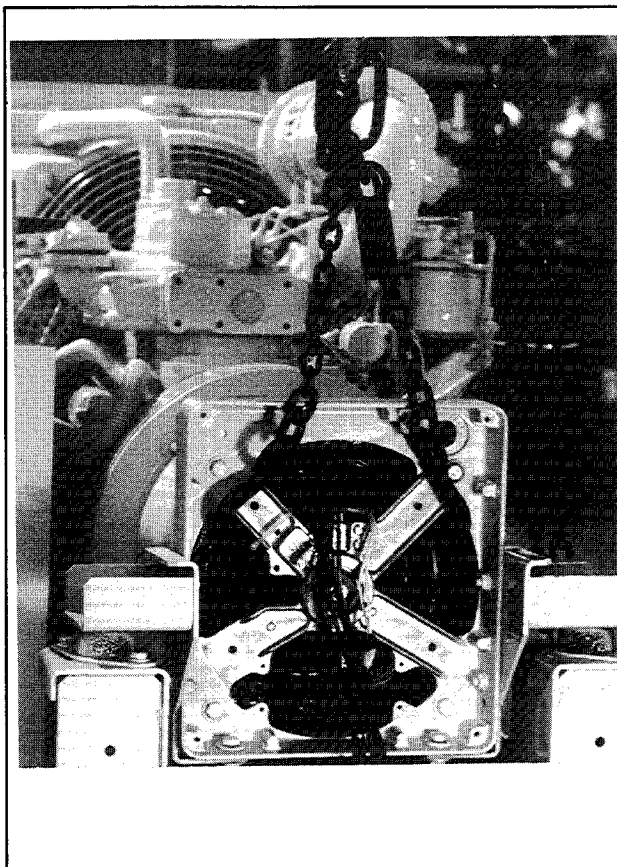

Figure 8-9. Hoisting Generator
11. Place hoist hooks in end bracket ribs and slightly tension hoist chain. See Figure 8-9. Remove vibromount hardware which consists of a small flat washer under the bolt head and a large flat washer at the lock nut end. See Figure 8-10 .